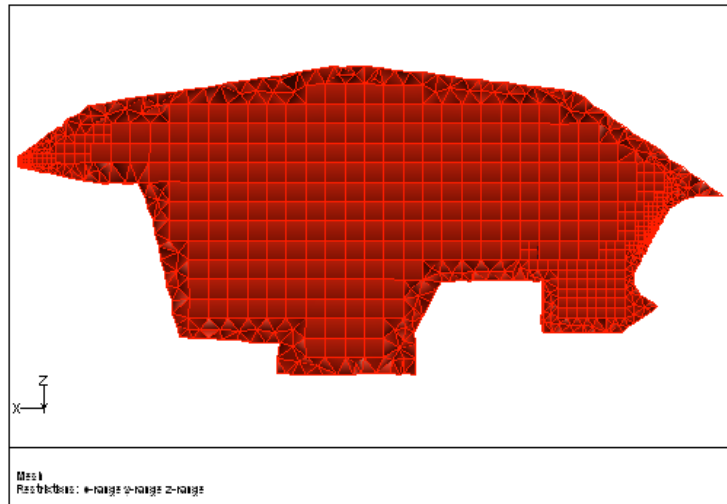

Figure 5.7: Slide of Cells at  $y = 50$  for the Hexcore Mesh With Buffer Layers = 1
- (d) Display a slide of cells at  $y = 50$  and  $y = -525$  (Figures 5.7 and 5.8).